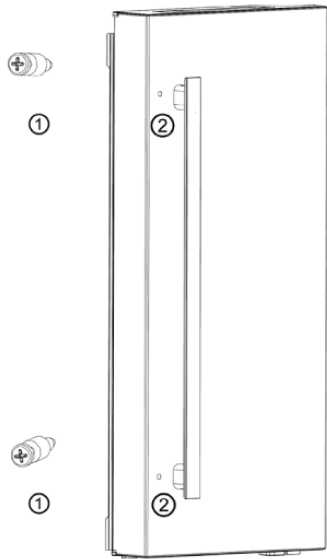

Figure 8
1. Take out bolt (1) from the accessories bag, then use a Phillips screwdriver to fix the bolt 1 into the bolt hole (2) of refrigerator doors. See Figure 8.